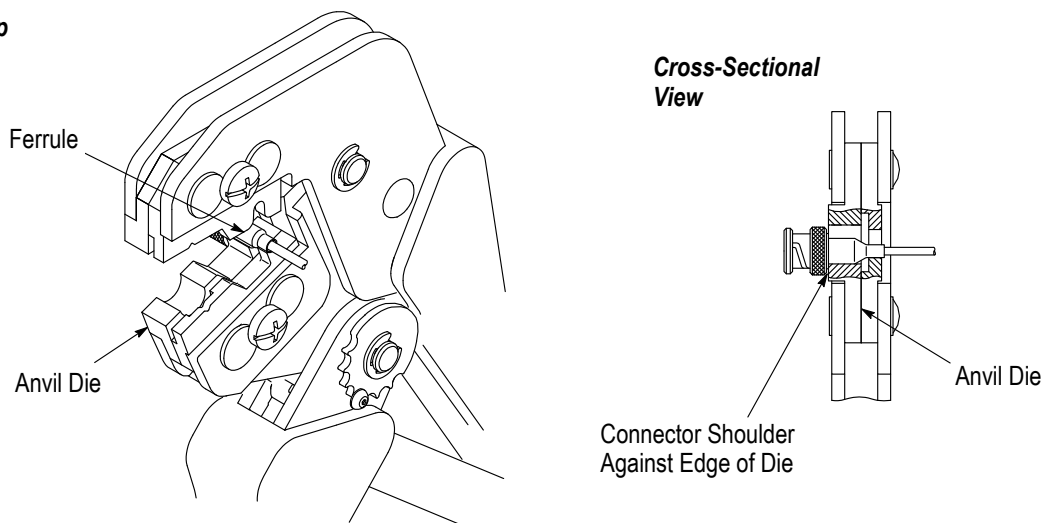

Figure 4
**4.2. Ferrule** (Figure 4)
3. Place the ferrule in the crimping chamber on the anvil die so that the shoulder of the connector body is against the edge of the die. Refer to Figure 4.